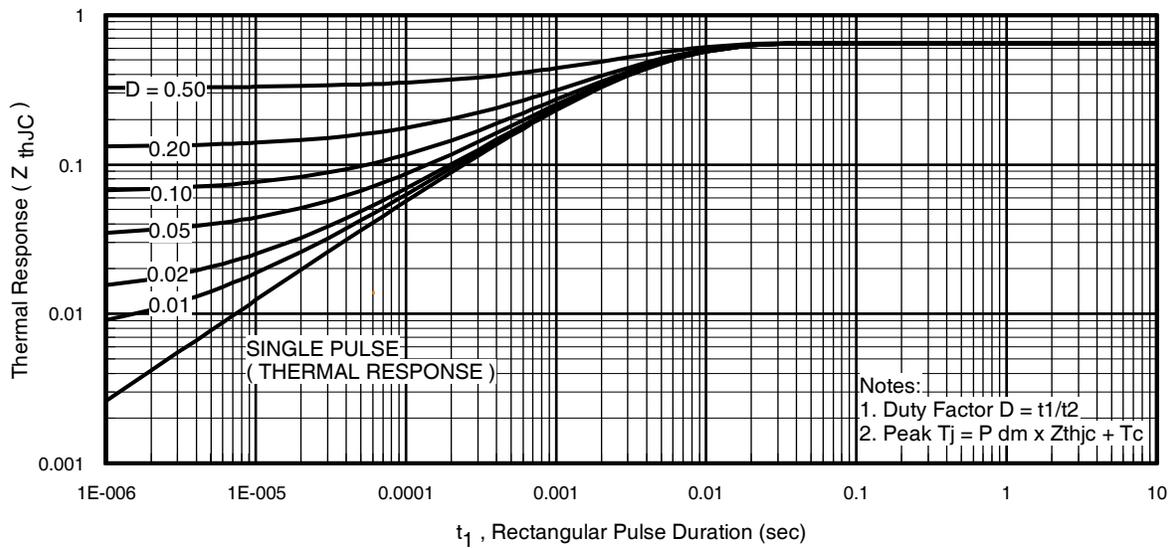

Fig 11. Maximum Effective Transient Thermal Impedance, Junction-to-Case
- ① Repetitive rating; pulse width limited by max. junction temperature. (See fig. 11).
- ② Limited by T_{Jmax}, starting T_J = 25°C, L = 0.10mH
$Z_{thJC}(D, t_{av})$ = Transient thermal resistance, see figure 11)